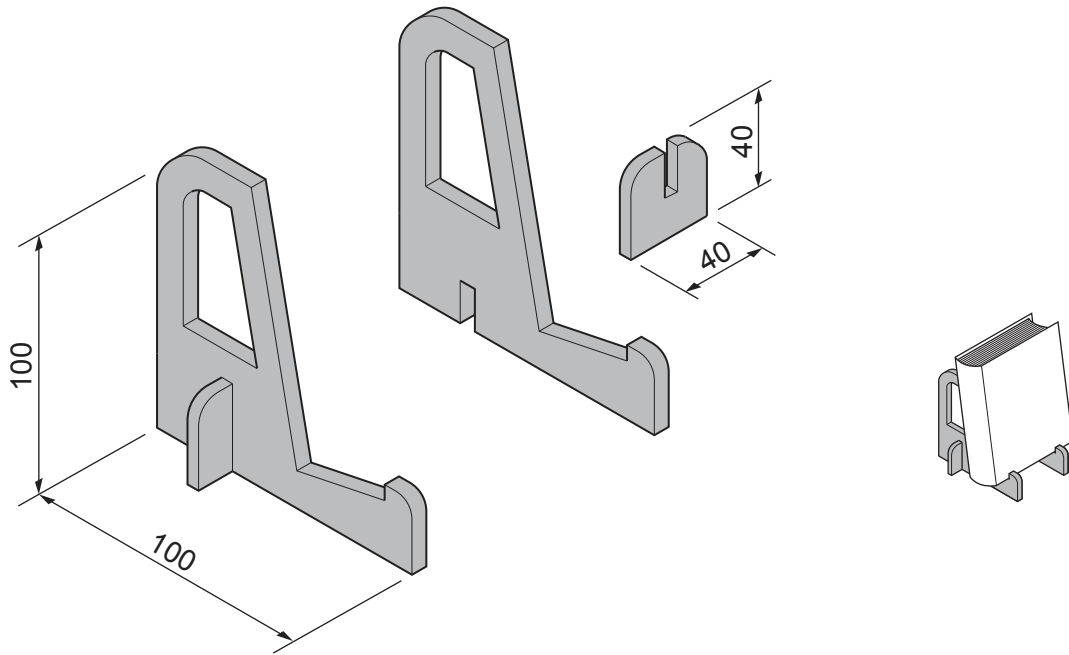
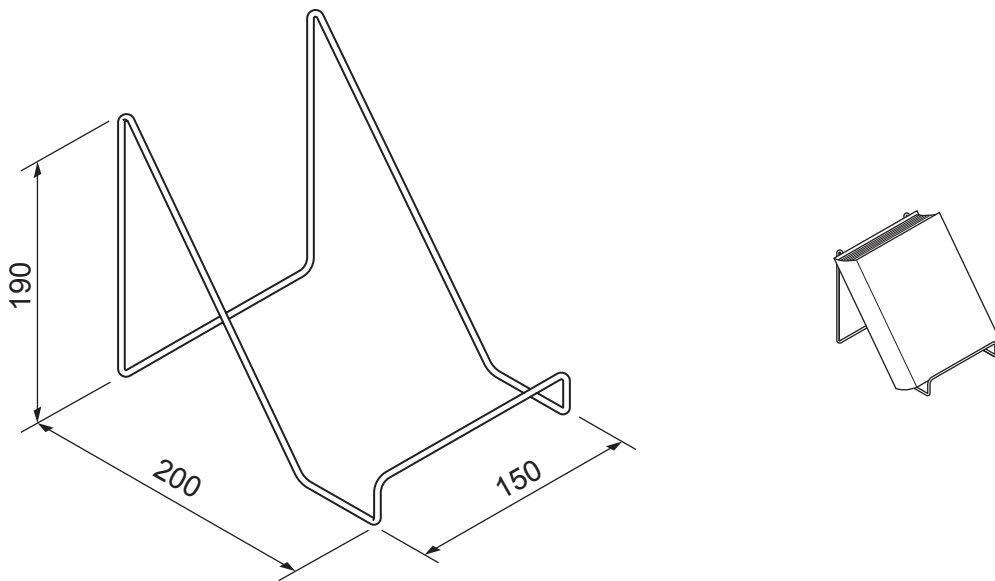

Fig. 12.1
Fig. 12.5
- 12 Fig. 12.1 shows a book stand that will be used to display books in a school library. The book stand is made from 5 mm thick acrylic and a batch of ten will be produced by hand in a school workshop.
- (e) Fig. 12.5 shows a different design for a book stand made from one length of $\text{Ø}5$ non-ferrous metal rod.
- (iii) Use sketches and notes to show how a single length of Ø5 non-ferrous metal rod could be bent to the shape of the book stand shown in Fig. 12.5.
- (f) Describe **one** different design feature of each of the book stands shown in Fig. 12.1 and Fig. 12.5.
Acrylic book stand Fig. 12.1
Metal book stand Fig. 12.5